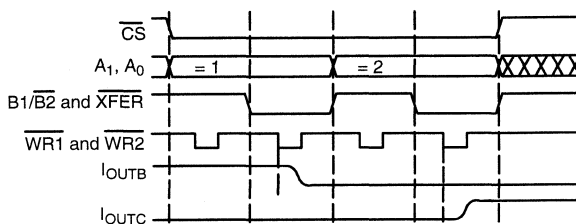

Figure 7. Automatic Transfer to DAC Latches
- 3) Automatic transfer to DAC latches. An 8-bit bus can update any DAC with two cycles by connecting $\overline{\text{WR1}} = \overline{\text{WR2}}$ and $\text{B1/B2} = \overline{\text{XFER}}$. This is the correct individual DAC update for 8-bit busses (Figure 7.).